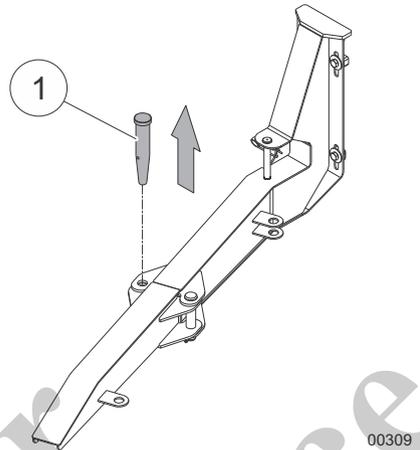

Fig. 128 Unbolting the ramp
- 20 Release and remove the bolt (1) in Fig. 128 on the ramp.